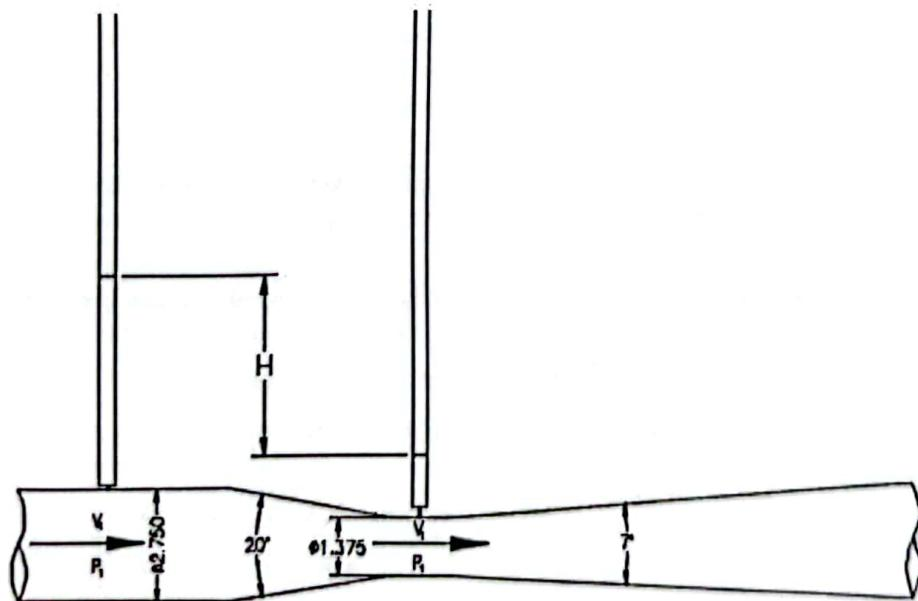

Figure 1: Detailed Diagram of Venturi Model
- $A_2$ : area of venturi throat ( $\text{ft}^2$ ) (Fig. 1) = 0.0103  $\text{ft}^2$